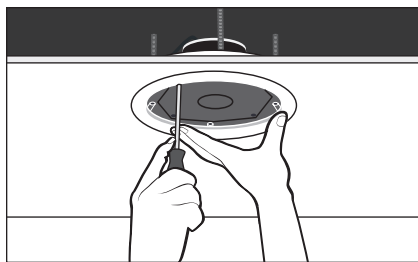

Figure 8b.
b) Hold speaker in place and alternately tighten each screw (Fig. 8b).